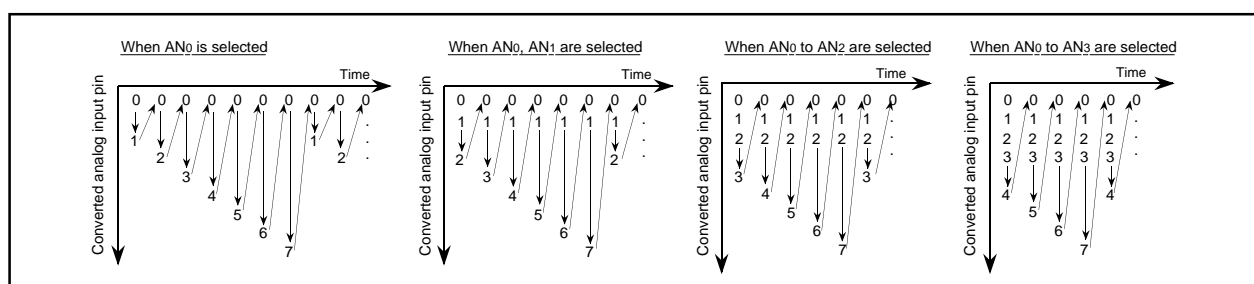
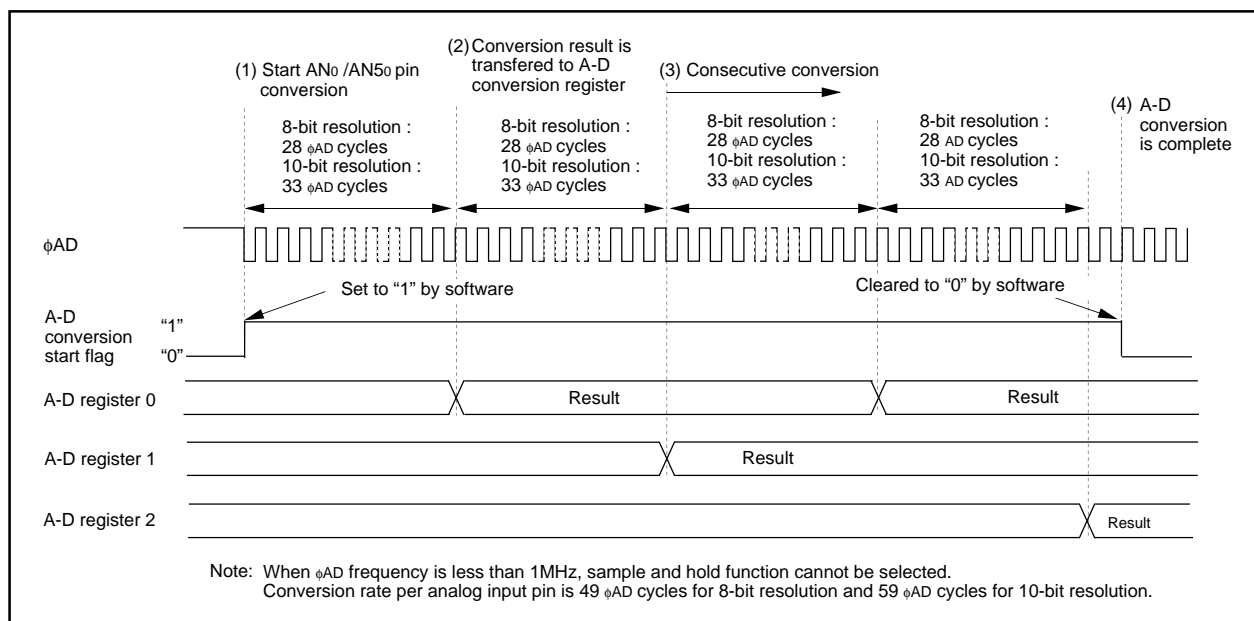
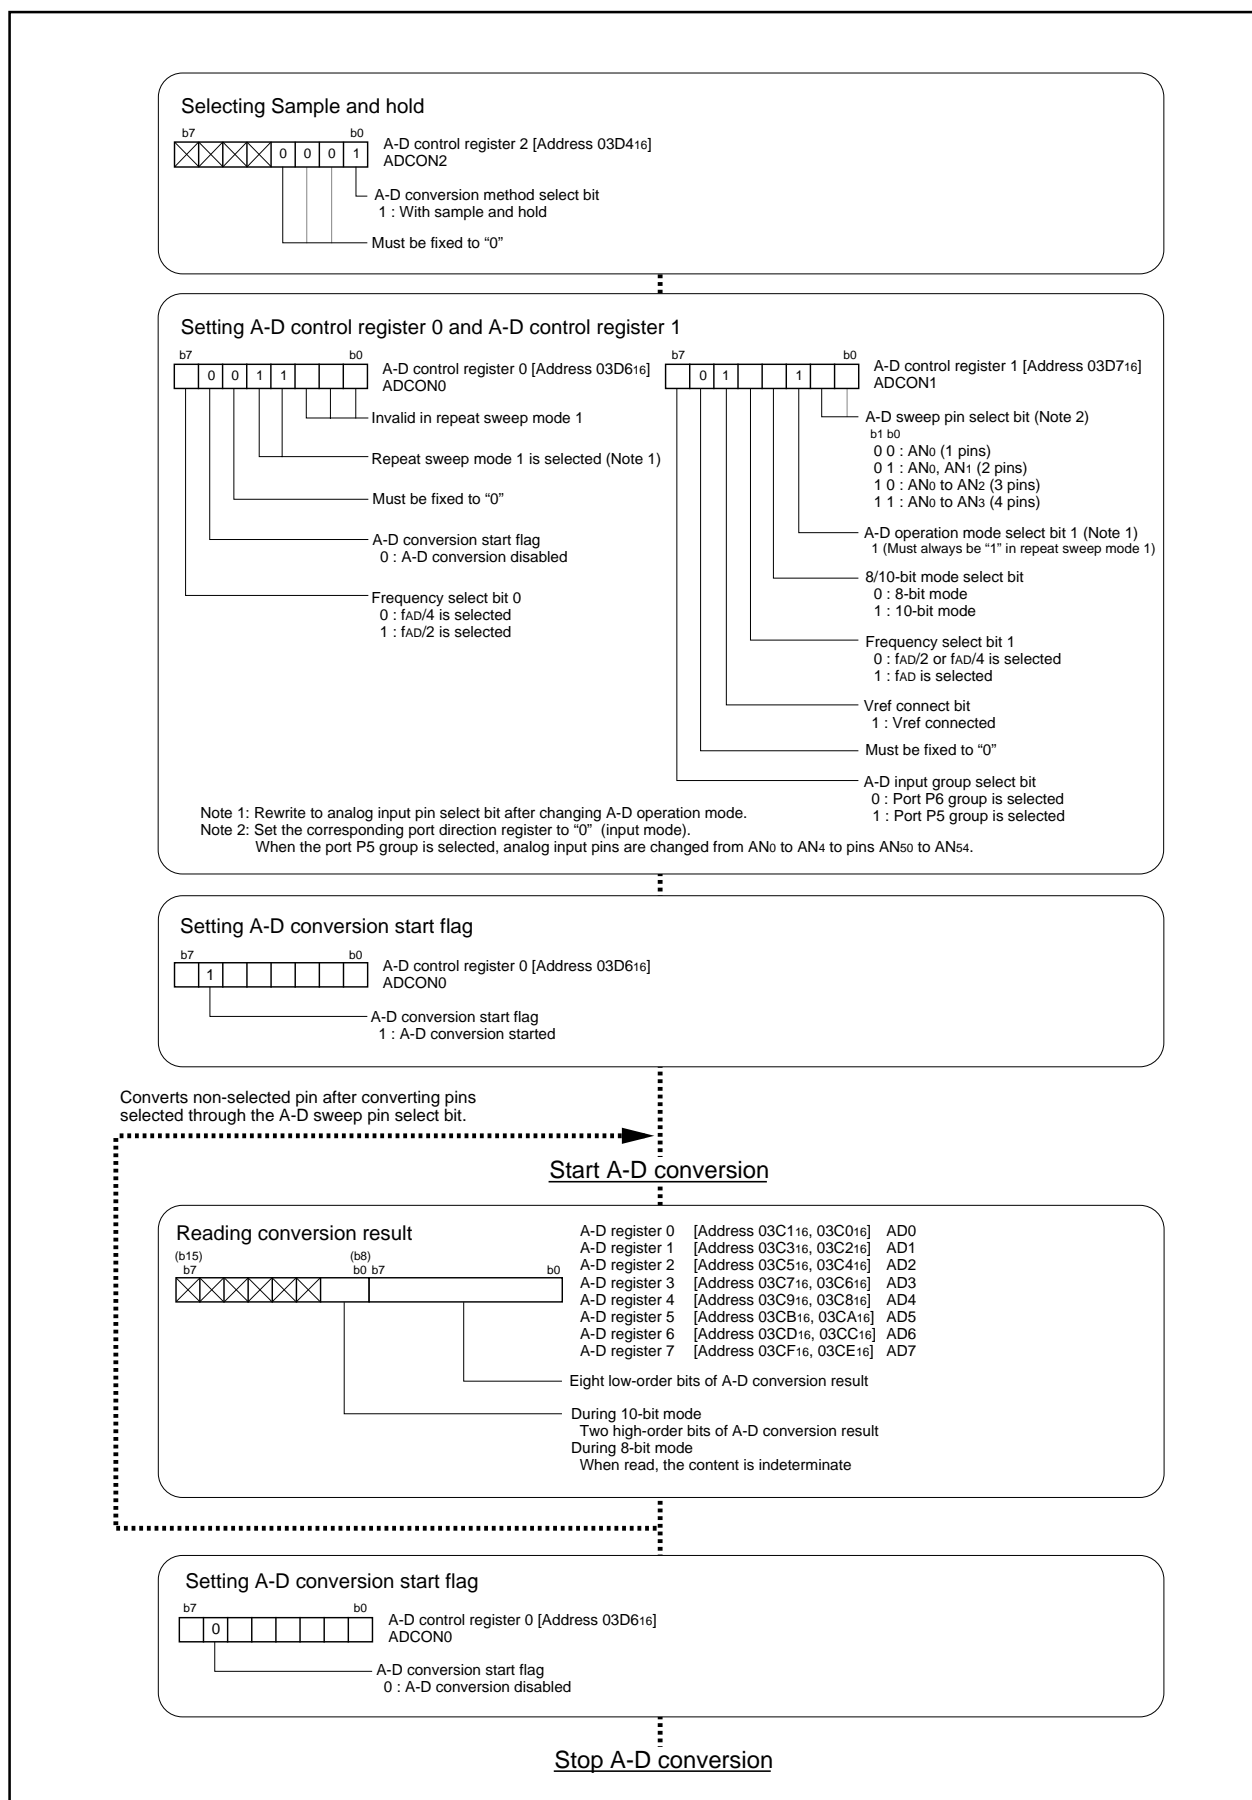

Figure 2.7.13. ANi pin's sweep sequence in repeat sweep mode
Figure 2.7.14. Operation timing of repeat sweep 1 mode
Figure 2.7.15. Set-up procedure of repeat sweep 1 mode
In repeat sweep 1 mode, choose functions from those listed in Table 2.7.6. Operations of the circled items are described below. Figure 2.7.13 shows ANi pin's sweep sequence, Figure 2.7.14 shows timing chart, and Figure 2.7.15 shows the set-up procedure.
- (1) Setting the A-D conversion start flag to "1" causes the A-D converter to start the conversion on voltage input to the AN0/AN50 pin.
- (2) After the A-D conversion on voltage input to the AN0/AN50 pin is completed, the content of the successive comparison register (conversion result) is transmitted to A-D register 0.
- (3) Every time the A-D converter carries out A-D conversion on a selected analog input pin, the A-D converter carries out A-D conversion on only one unselected pin, and then the A-D converter carries out A-D conversion from the AN0 pin again. (See Figure 2.7.13.) The conversion result is transmitted to A-D register i every time conversion on a pin is completed. The A-D conversion interrupt request bit does not go to "1".
- (4) The A-D converter continues operating until software goes the A-D conversion start flag to "0".